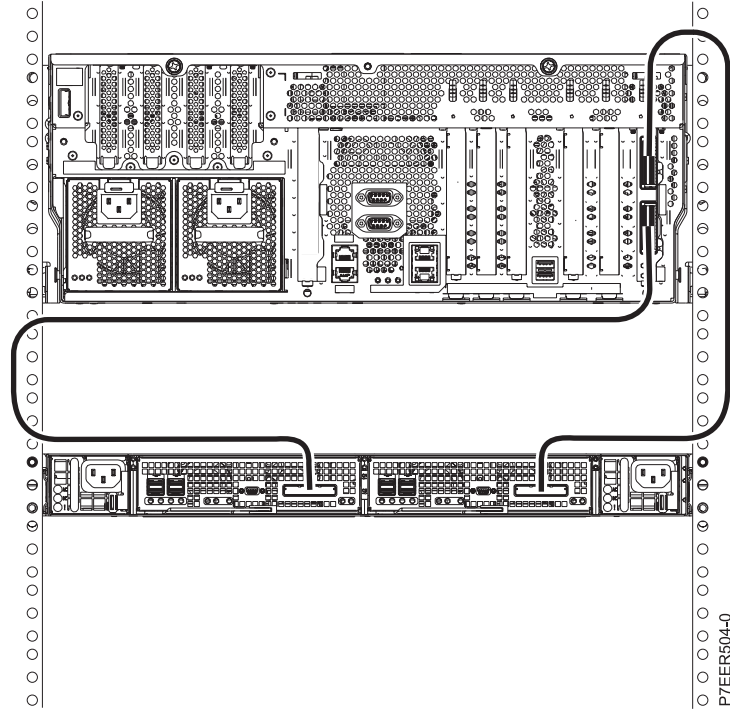

Figure 3. One 5888 PCIe storage enclosure connected to a single 8202-E4C or 8205-E6C system by using one FC EJ03 PCIe2 GX++ adapter and two PCIe cables
Figure 3 on page 5 shows one 5888 PCIe storage enclosure connected to a single 8202-E4C or 8205-E6C system by using one feature code (FC) EJ03 PCIe2 GX++ adapter and two PCIe cables.